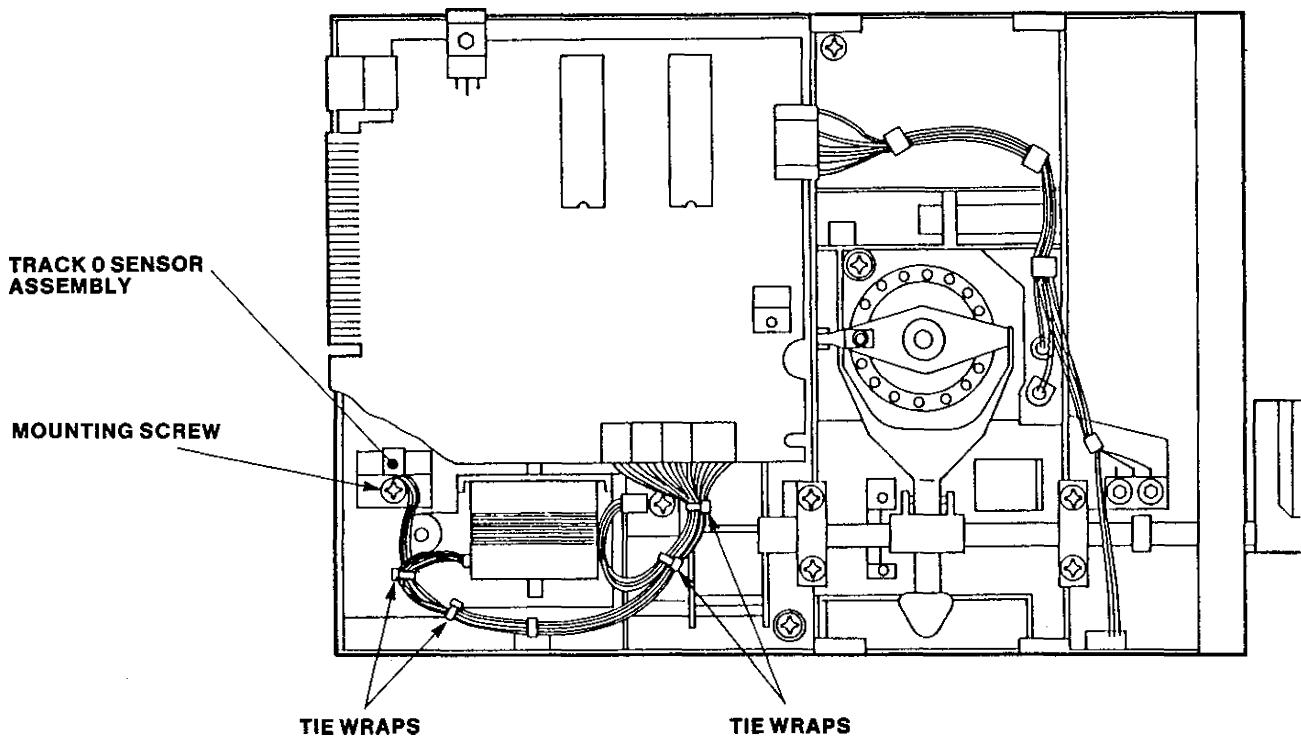

FIGURE 6-11
2. Cut the tie wraps that hold the cable harness, and remove the P11 wires (Figure 6-11).